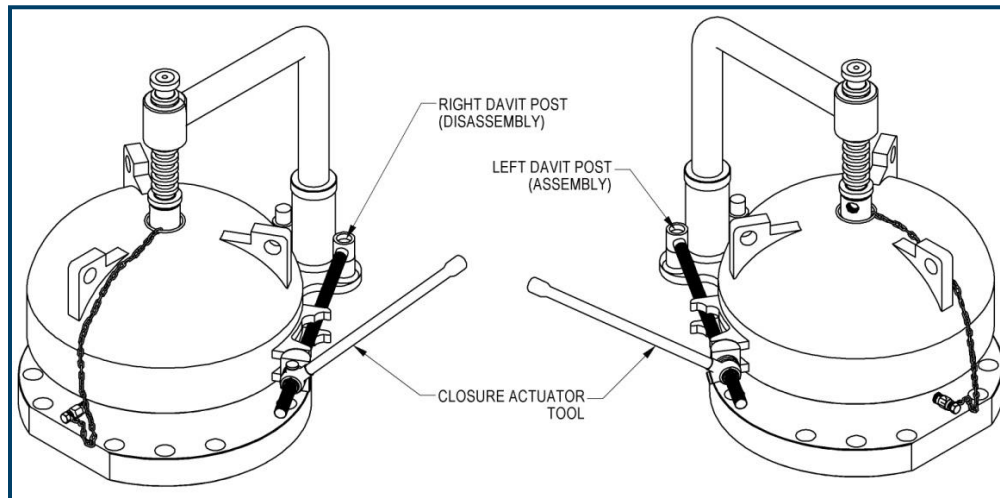
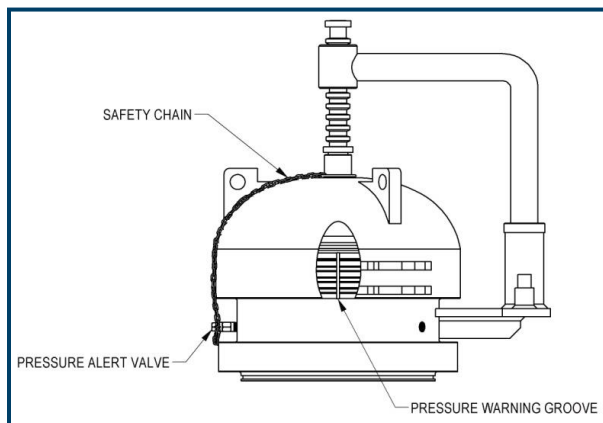
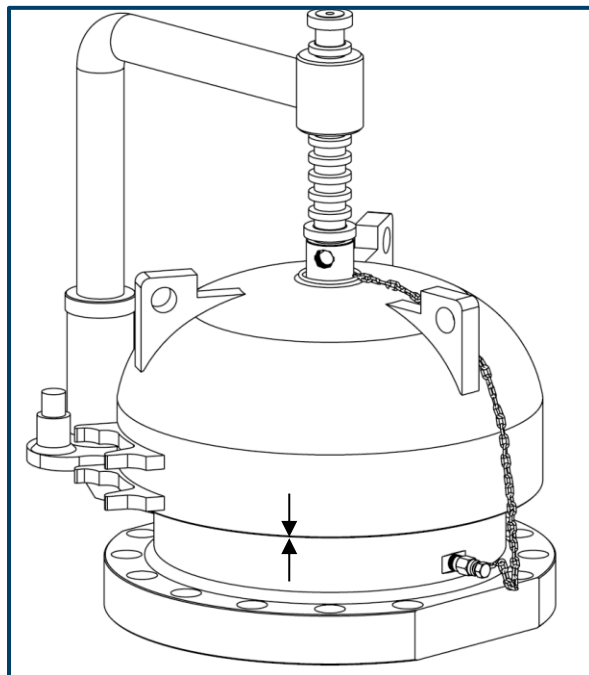

Figure 4: Closure Actuator Tool Positioning for Disassembling & Assembling of Entry Cap
Figure 5: Pressure Warning Groove Location on Entry Cap
Figure 6: Entry Cap Make-Up Arrows
7. Attach the closure actuator tool to the right davit post (see Figure 4) and use a ratcheting motion on the tool to slowly loosen the entry cap in a counterclockwise rotation. Observe the pressure warning groove area at the bottom of the threads on the entry cap (see Figure 5). If there is any media flowing from this area when the entry cap is loosened, immediately re-tighten the entry cap. Slowly open vent valve to vent remaining pressure and drain fluid from the Pig Valve main body cavity. If unable to vent all pressure from body cavity refer to Section 10.0 'Troubleshooting' in this manual.
14. Attach the closure actuator tool to the left davit post (see Figure 4) and use a ratcheting motion to slowly tighten the entry cap until metal-to-metal contact is made as indicated by alignment of the make-up arrows (see Figure 6).
7. Attach the closure actuator tool to the right davit post (see Figure 4) and use a ratcheting motion on the tool to slowly loosen the entry cap in a counterclockwise rotation. Observe the pressure warning groove area at the bottom of the threads on the entry cap (see Figure 5). If there is any media flowing from this area when the entry cap is loosened, immediately re-tighten the entry cap. Slowly open vent/drain valve to vent remaining pressure and drain fluid from Pig Valve main body cavity. If unable to vent all pressure from body cavity refer to Section 10.0 'Troubleshooting' in this manual.